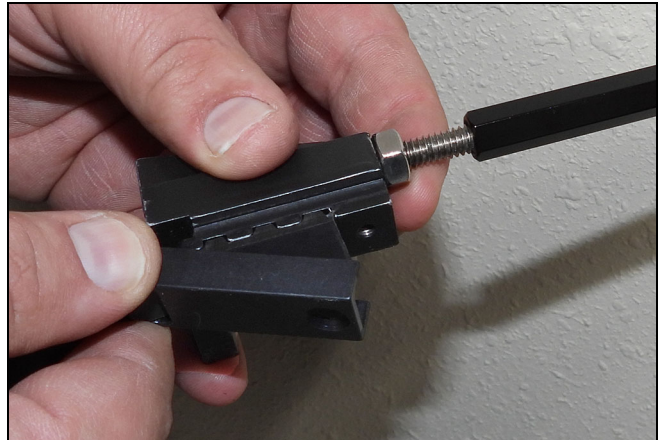
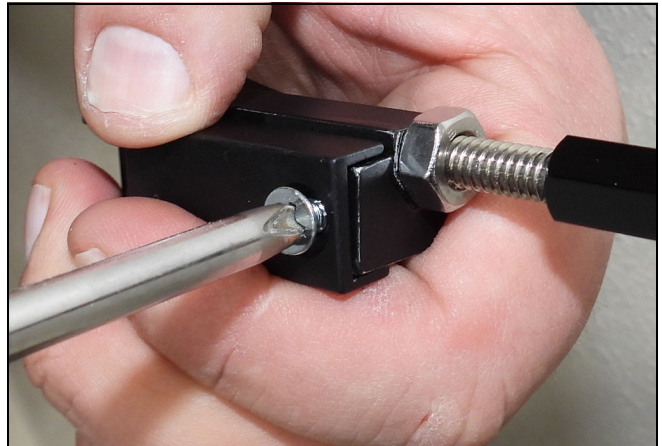

Figure 30
Figure 31
3. Attach belt on panel bracket and fasten with #8- 32 x 3/8" screw. See Figure 30, Figure 31, and Figure 32.